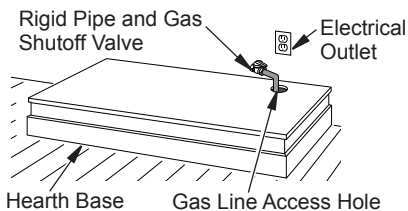

Figure 9 - Placing Hearth Base Accessory Against Wall
- When installing blower, install a properly grounded, 120 volt three-prong electrical outlet at fireplace location if an outlet is not there. If possible, locate outlet so cabinet mantel will cover it when installed (see Figure 9, page 11).
- Place hearth base accessory against wall at installation location. Cut an access hole in hearth top to run flexible gas line to fireplace (see Figure 9). Make sure to locate access hole so cabinet mantel will cover it when installed.